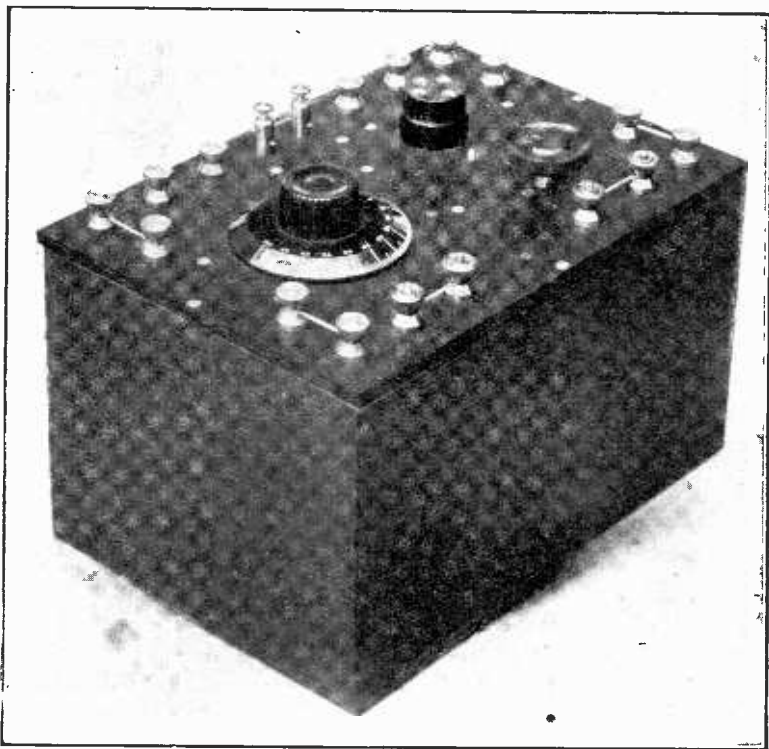

Fig. 1. Exterior view of the single-valve receiver.
Curves which may be drawn showing the variation of total resistance with wavelength, are similar to Fig. 1. The figure shows roughly how the resistances vary with wavelength. The copper loss, in which is included that due to eddy currents and skin effect, is slightly greater the higher the frequency, and is represented by curve (1). The loss due to imperfect dielectrics is proportional to the wavelength, the higher the wavelength the greater the loss, and is represented by curve (2). The radiation resistance is repre-
Fig. 1. The curves indicate the variation in antennæ resistance with wavelength. The sum of the magnitude of the resistances shown by curves 1, 2 and 3 at a given wavelength give the total antennæ resistance at that wavelength. In practice the total resistance only is measurable.